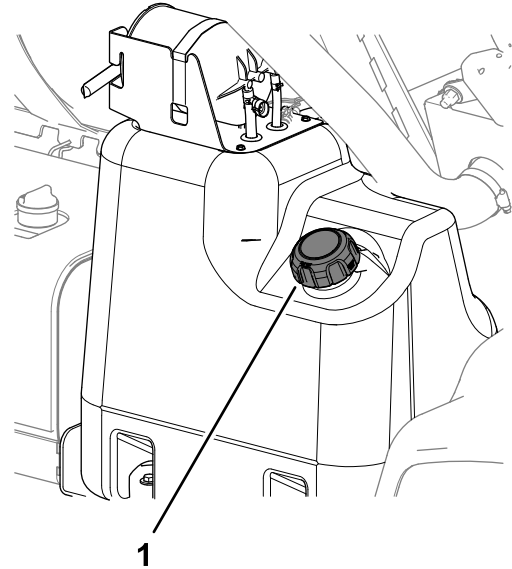

Figure 23
2. Clean the area around the fuel-tank cap (Figure 23).